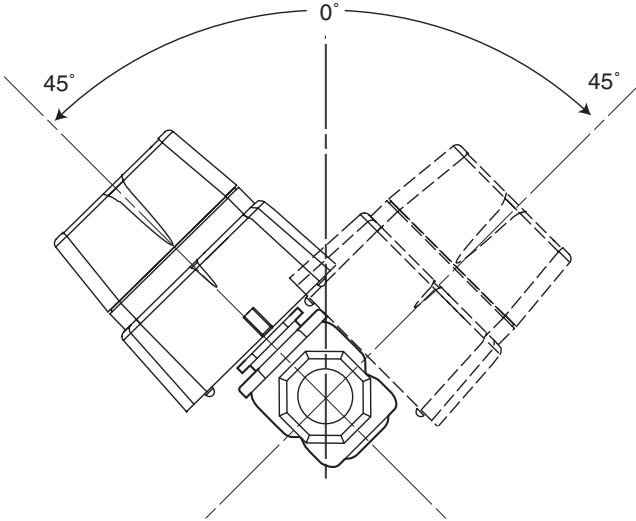

Figure-14 Mounting Orientations for Steam Applications.
- On steam applications, the ball valve assembly must be mounted approximately 45° from horizontal (Figure-14).